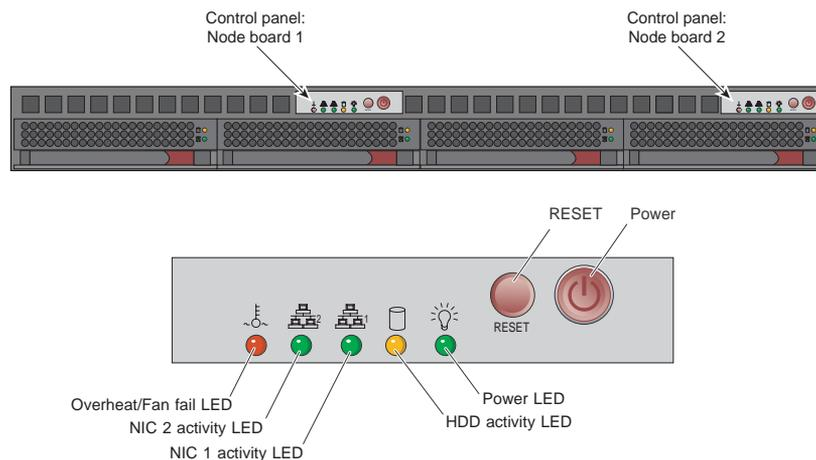

Figure 1-2 SGI Altix XE320/XE340 Compute Node Controls and Indicators
3. To power off the compute nodes, press the power button (for up to 5 seconds) on the front panel of each unit (refer to Figure 1-2 on page 5).